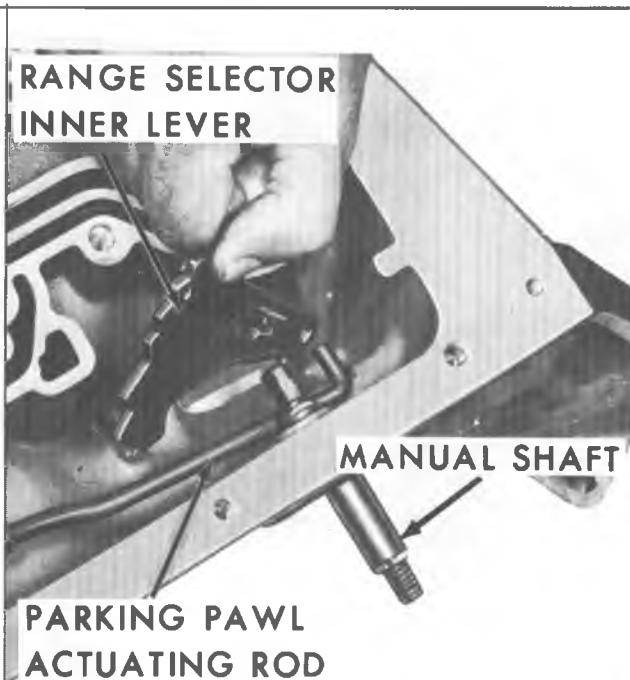

Fig. 7A-23B--Removing Manual Shaft and Inner Lever and Parking Pawl Actuator Rod from Case
8. Remove manual shaft to case retainer with screwdriver (fig. 7A-21B).